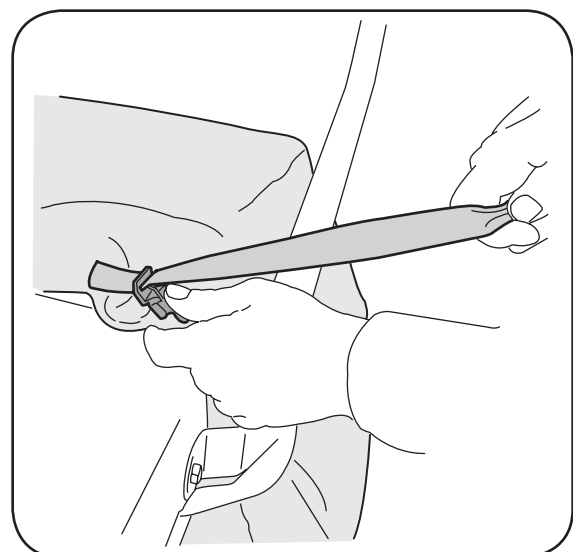

Figure 3-7
7. Squeeze the clamp on the drawstring and pull the drawstring tight. Release the clamp. See Figure 3-7.